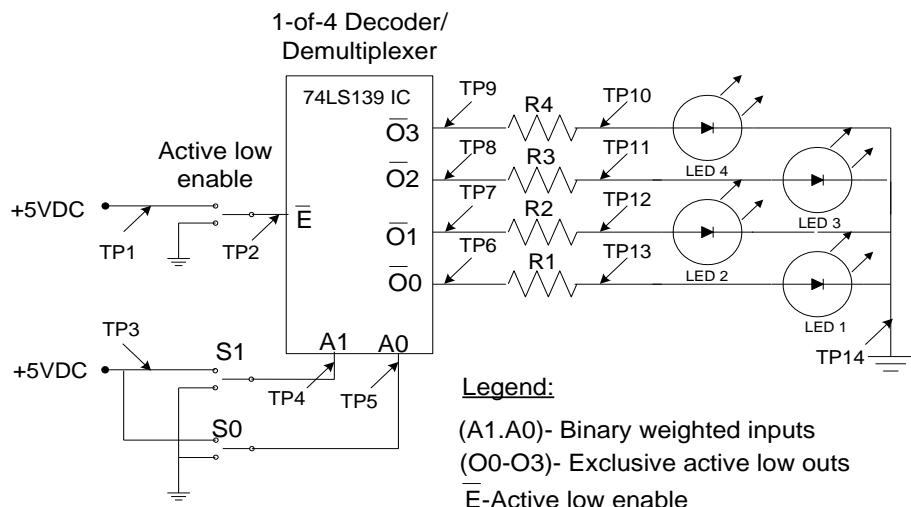

Figure 9: Simplified circuit diagram and test points (TP)
1. With the bread board power supplies on, use the multimeter and perform voltage check in every test points, as shown in Figure 9.